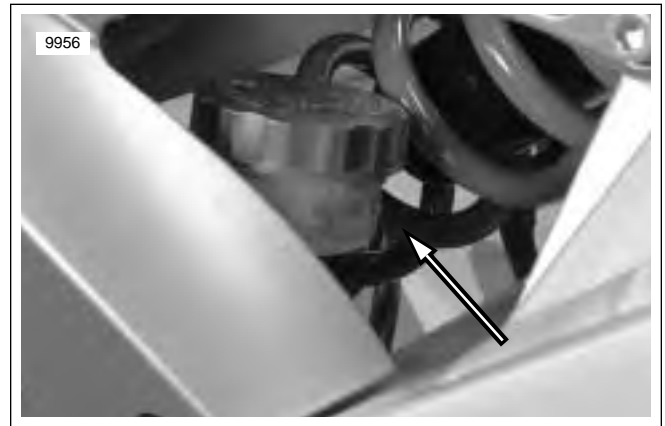

Figure 2-62. Rear Reservoir (XB12S shown)
5. See Figure 2-62. Verify proper fluid level in reservoir.